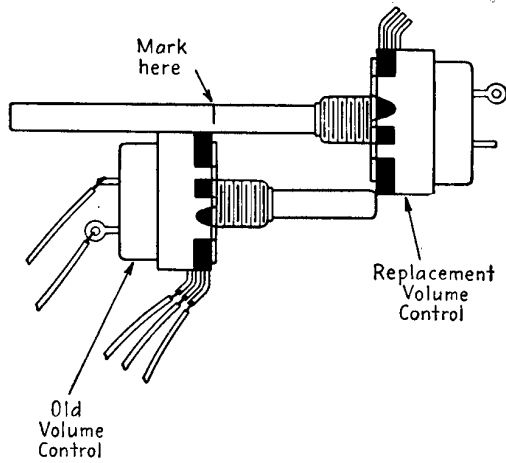

FIG. 11-11.—Measuring the replacement volume control for length.
- Measure it against the original as shown in Fig. 11-11 and mark the proper length.